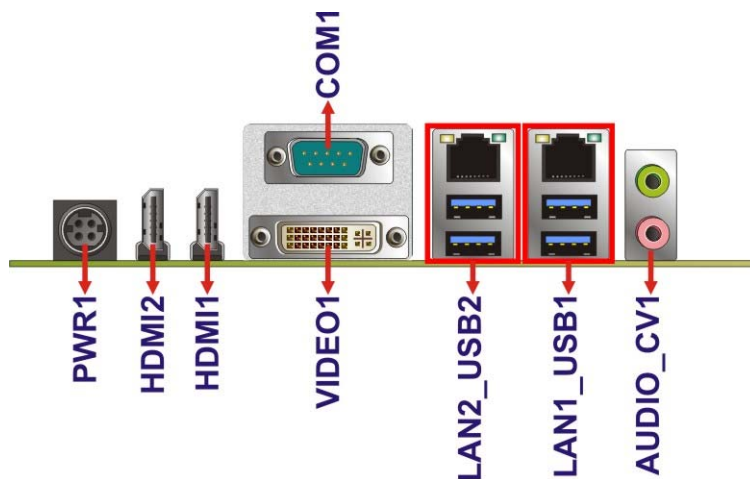

Figure 3-29: External Interface Connectors
Figure 3-29 shows the KINO-QM770 motherboard external interface connectors. The KINO-QM770 on-board external interface connectors are shown in **Figure 3-29**.
CN Location: See **Figure 3-29**
- CN Location:** See **Figure 3-29**